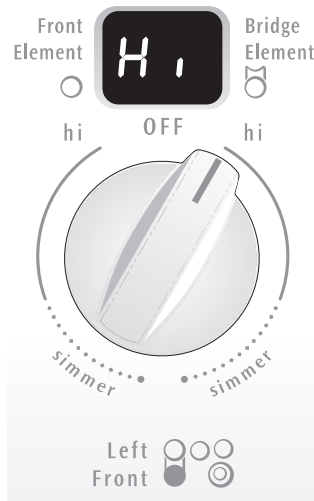

Figure 3
2. Push in and turn the control knob counterclockwise (See Figs. 1 and 2) to heat the portion of the Bridge element for normal shaped cookware or clockwise (See Figs. 3 and 4) for larger or rectangular shaped cookware.